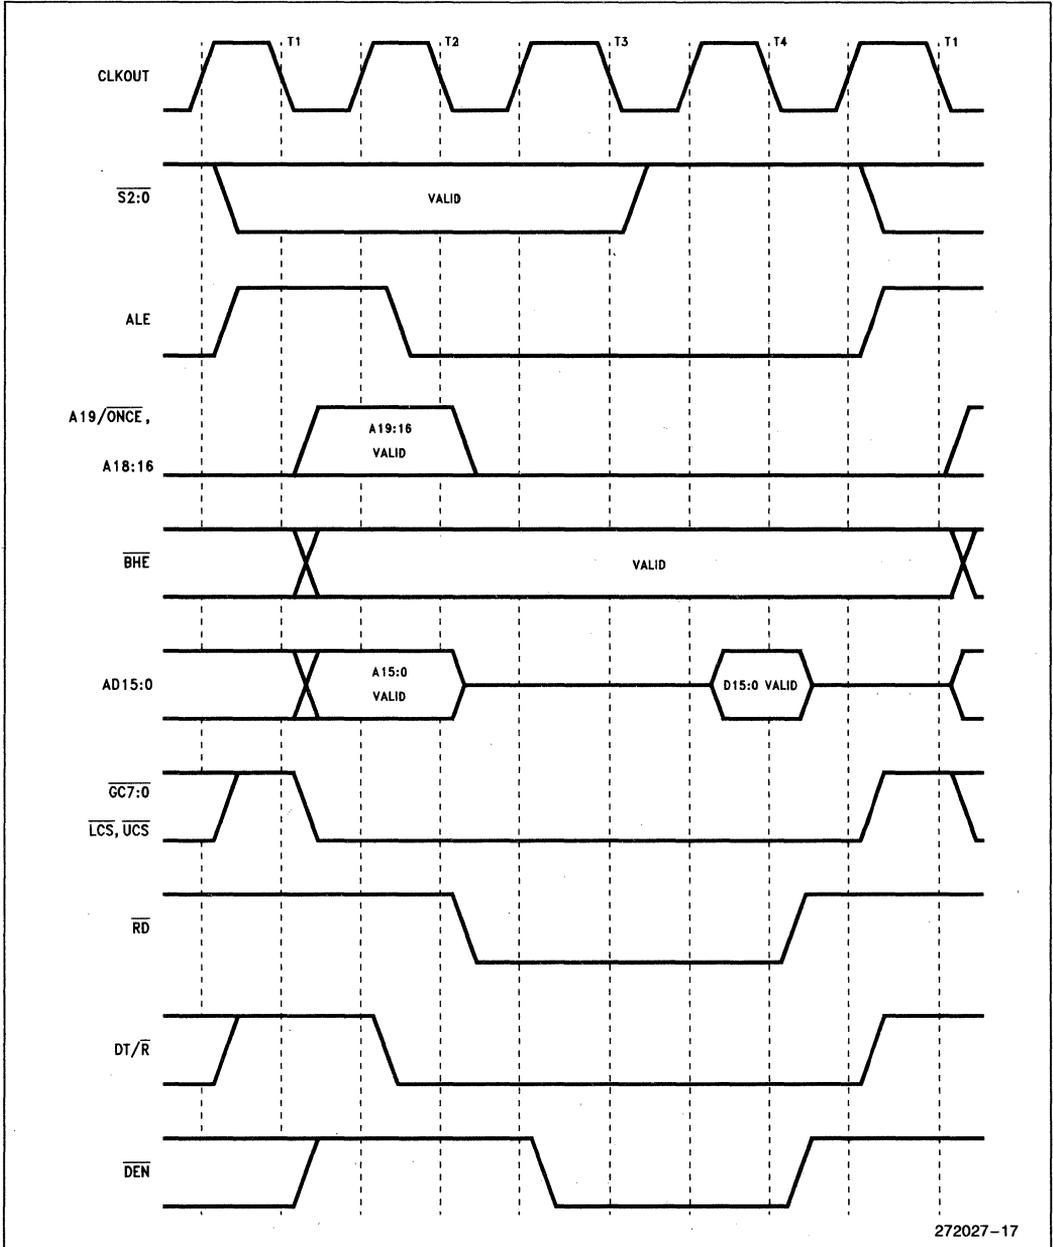

Figure 17. Memory Read, I/O Read, Instruction Fetch and Refresh Waveform
5. Specified for a 50 pF load, see Figure 17 for rise and fall times outside 50 pF.
6. See Figure 17 for rise and fall times.
Figures 17 through 23 present the various bus cycles that are generated by the 80C186EC. What is shown in the figure is the relationship of the various